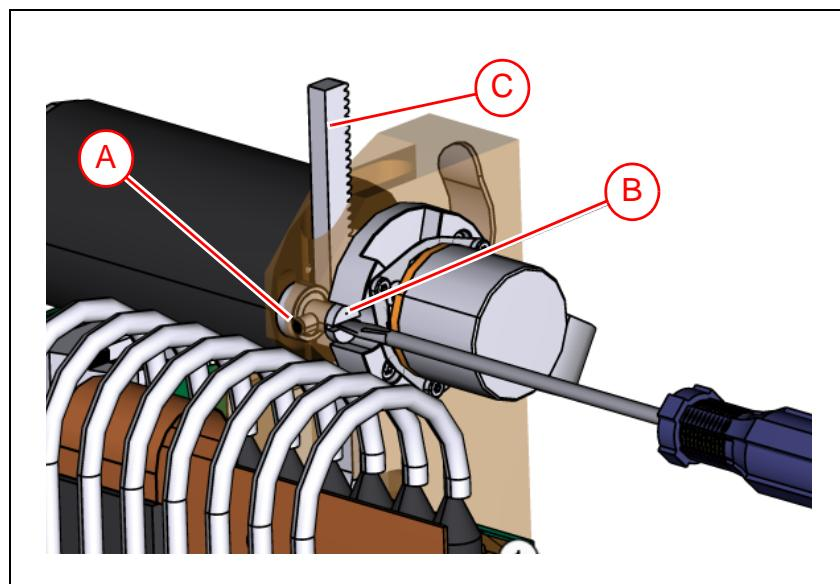

Figure 6-18. *HZ Cog play adjustment*.
2. Loosen the locking screw ('A' in Figure 6-18).